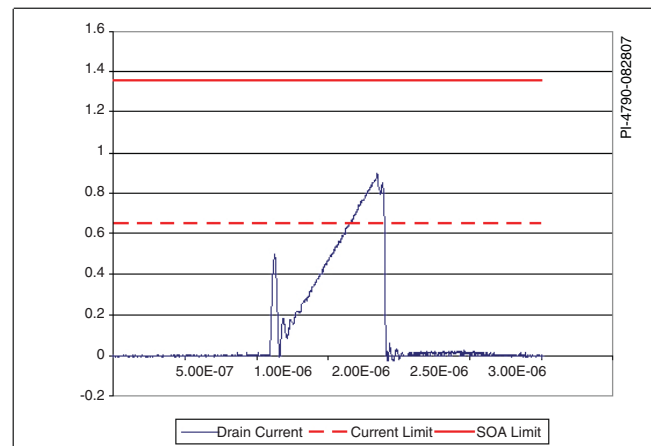

Figure 3. Peak Current Overshoots the Current Limit But is Within Limits Specified in the Data Sheet.
- Use a slow blocking diode D5 with a 100 Ω series resistor. Use only a glass-passivated (GP) diode type to ensure a reverse recovery time of 2 μ s or less. If unavailable, a fast diode such as FR107 may be used instead. These diode selections recycle some of the clamp energy and improve efficiency at no load.
- Figure 3 shows the drain current measured at 265 VAC input and at full load. The peak drain current was measured as 900 mA. The datasheet absolute maximum current for the TNY280PN is 1.36 A, leaving sufficient safety margin.